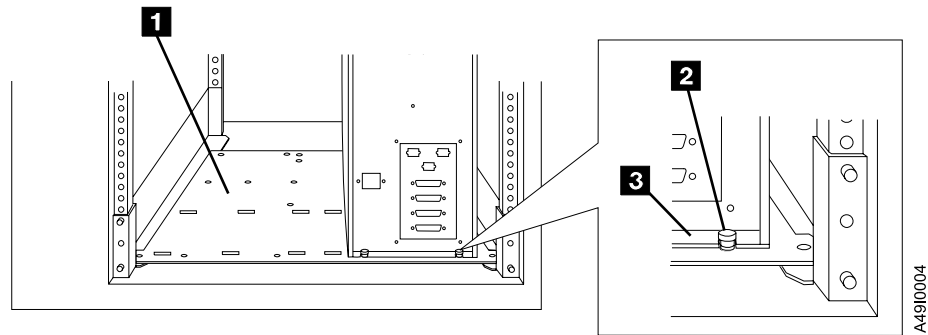

Figure 11. Library Frame Rear Alignment
- Step 18. Position the library in the rack on the left side of the rack base plate 1. See Figure 11.
- Step 19. Slide the library in position so the slots at bottom rear of library frame 3 engage screws 2 at rear of base plate. See Figure 11.
- ___ Step 21. Tighten screws at bottom rear of library frame. See Figure 11 on page 13.